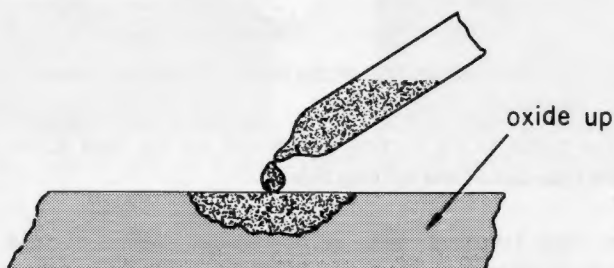

Fig. 4. Developing the tape.
2. Place one or two drops of tape developer on the tape and allow about 30 seconds to dry. See Fig. 4.